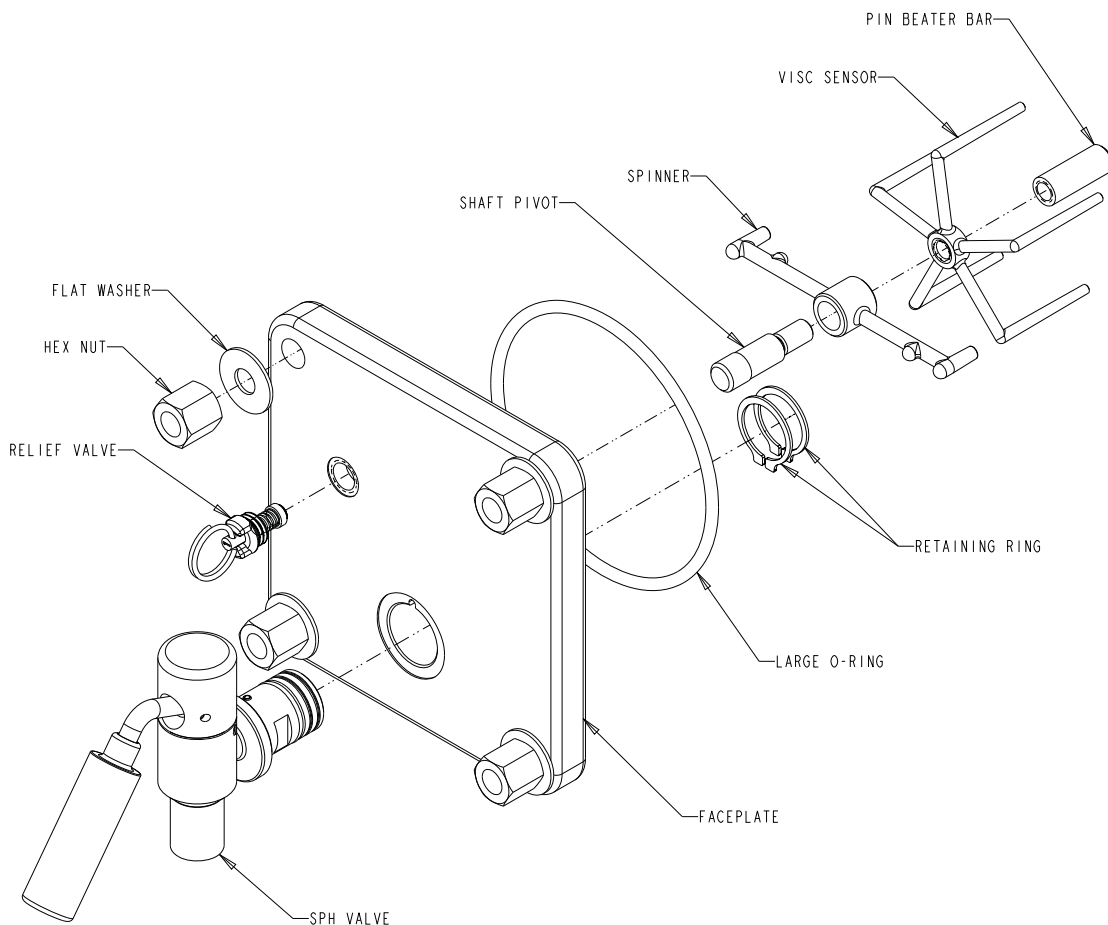

Figure 12.
6.	Disassemble the dispensing valve (see Figure 12).